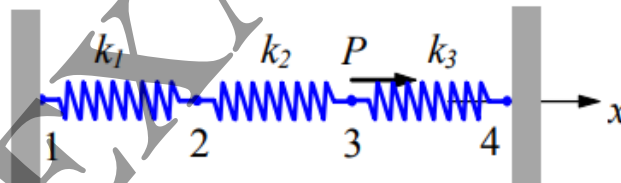

Figure Q1: Spring assemblages
b) For the spring assemblages shown in **Figure Q1** below, the springs are arranged in series with node 1 and 4 as fixed. Use the direct stiffness method for problems.